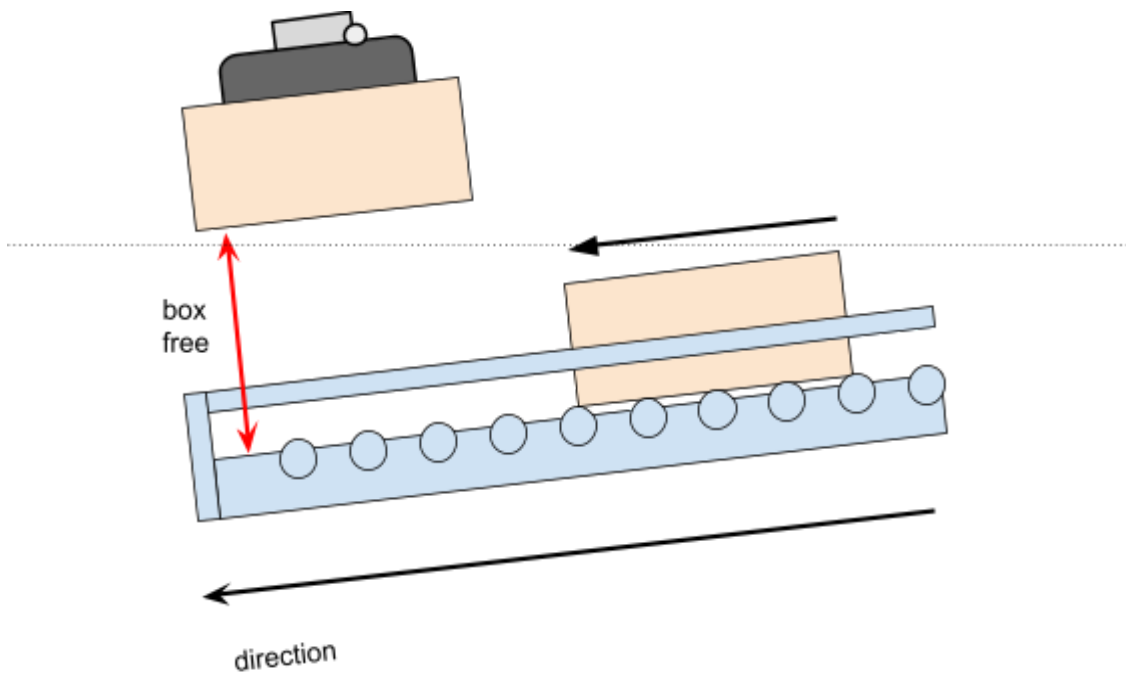

Figure 74: Choose a box free distance that is big enough to move the box above the others.
- Choose *box_free* high enough to move the box freely above the next boxes, as shown on **figure 74**.
- Choose "box free" high enough to move the box freely above the next boxes (figure 74).